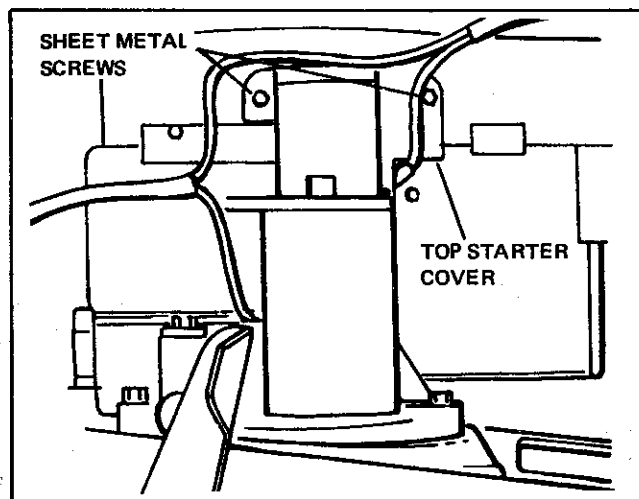

Figure 2
1. Remove the sheet metal cover on the right hand side of the engine. Install the starter kit with the two hex head bolts provided. See Figure 2.